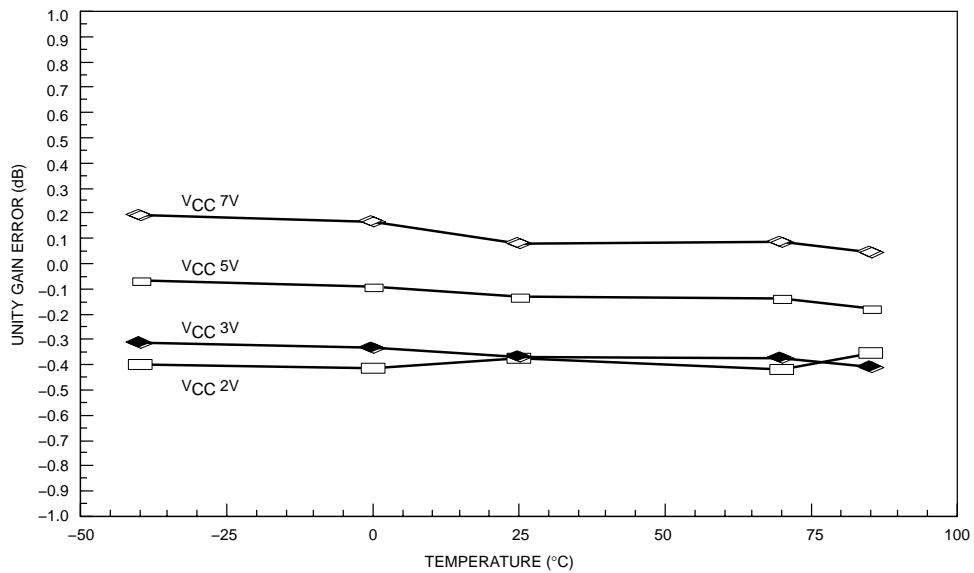

Figure 6. Unity Gain Error vs. Temperature and V_{CC}
1. Operation down to $V_{CC} = 2.0$ V is possible, but performance is reduced. See curves in Figures 6 and 7.